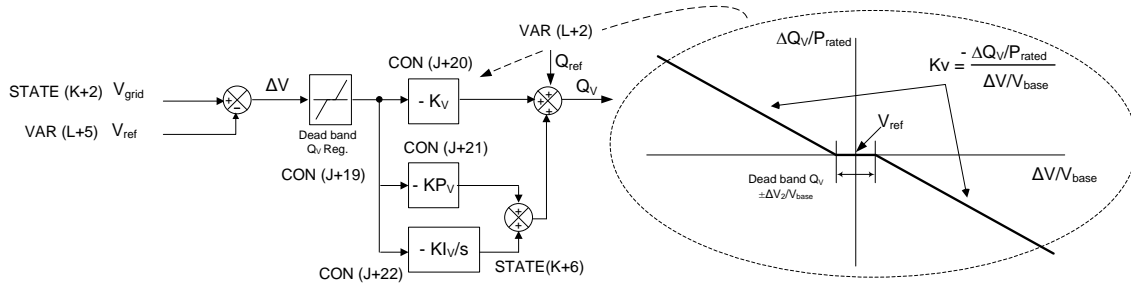

Figure 14. Block diagram of the control of reactive power by the voltage level
Finally, the reactive power output can be controlled by determining the reactive power (Q_v) to be supplied according to the deviation of the voltage at the control bus from a reference value (Figure 14). The control strategy is based on proportional plus integral (PI) control actions with parallel reactive droop compensation.